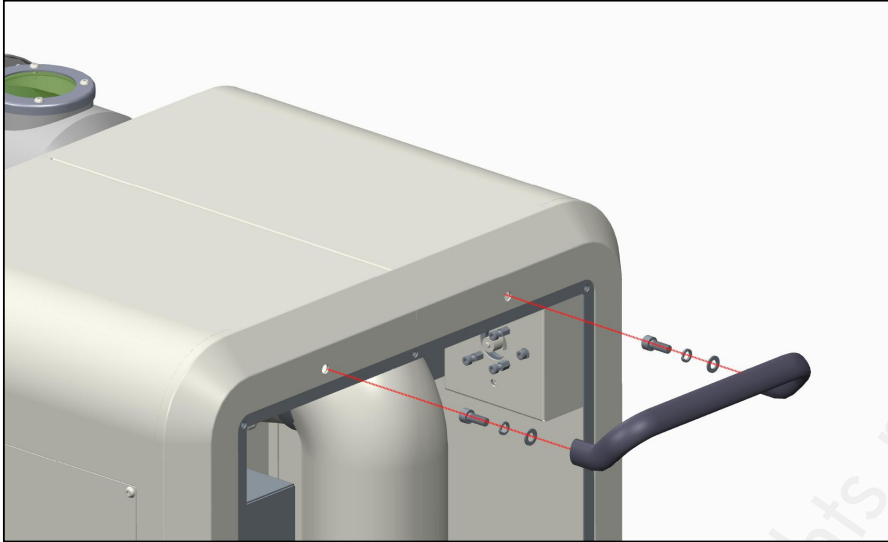

Figure 10
5. Install the handle as on figure 10. Side cover plate needs to be removed.